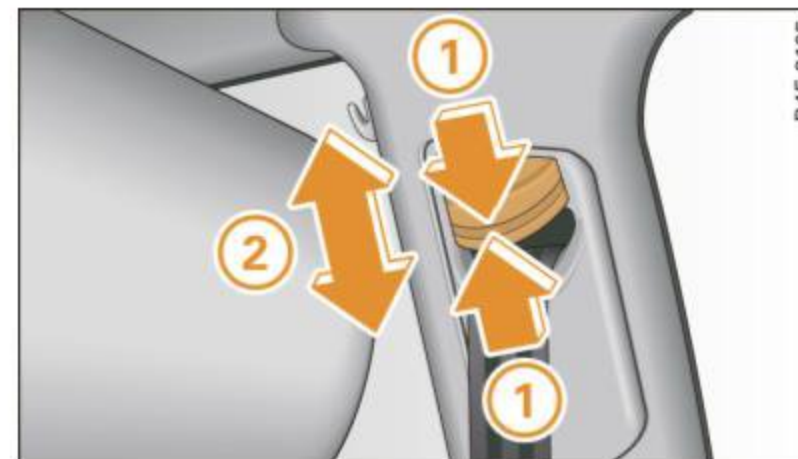

Fig. 185 Safety belt height adjustment for the front seats – loop-around fittings
- Push the loop-around fittings **up** ⇒ fig. 185 (2), or
- squeeze together the (1) button, and push the loop-around fittings **down** (2).